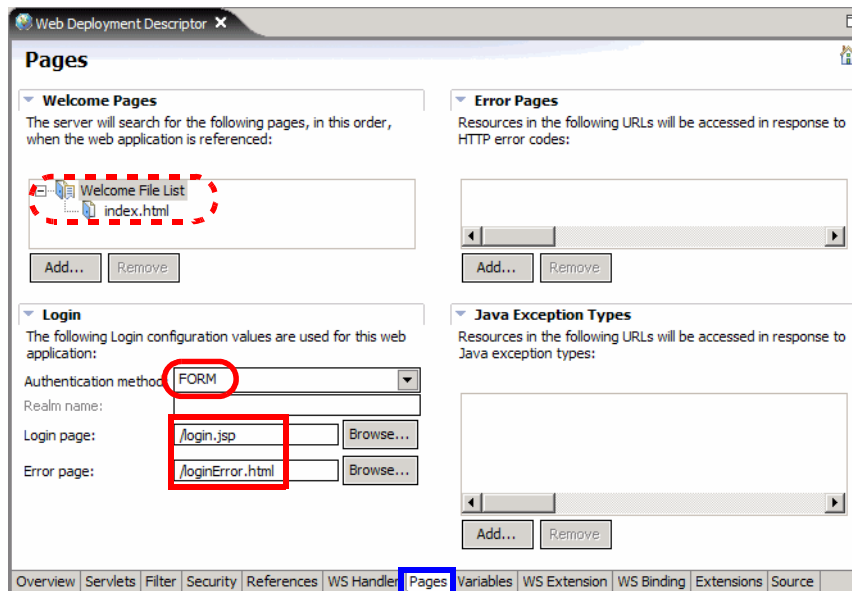

Figure 11-22 Web deployment descriptor login pages
- ▶ Select the *Pages* tab. For login authentication method select *FORM*. Then select the `login.jsp` and the `loginError.html` page for the login and error pages (Figure 11-22).